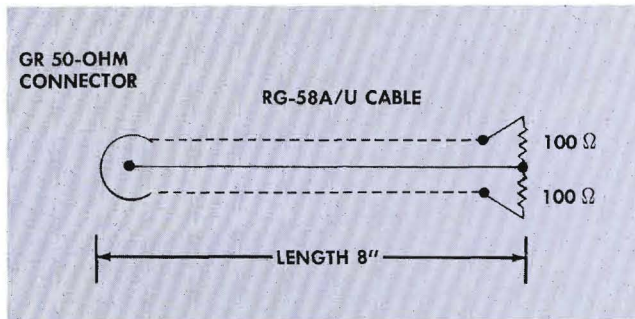
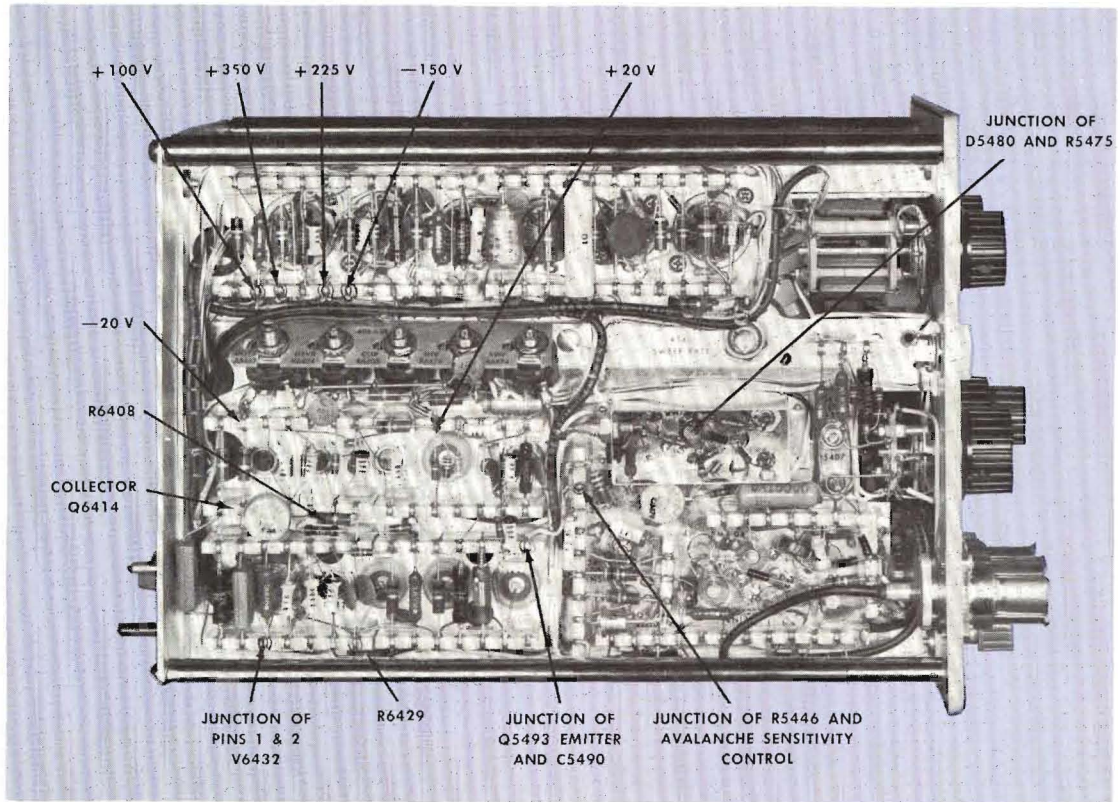
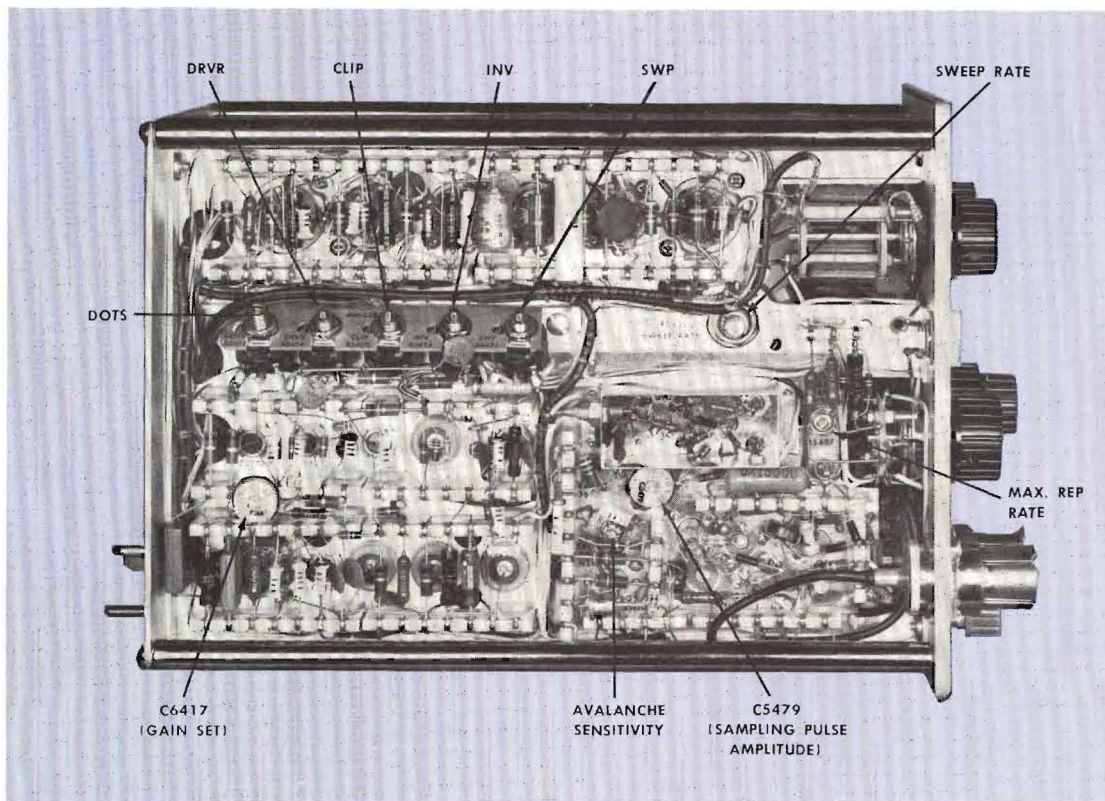

Fig. 6-2. 50 Ω terminated cable circuit.
Fig. 6-3. Location of the Type N Unit test points.
Fig. 6-4. Location of the Type N Unit internal adjustments.
Connect the 50-ohm termination cable shown in Fig. 6-2 to the SIGNAL INPUT connector on the Type N Unit. Set the TRIGGER SENSITIVITY control to the FREE RUN position. Turn the oscilloscope on and allow it to warm up for at least one minute before making any measurements.
The location of each test point and internal adjustment is shown in Figures 6-3 and 6-4.
- (8) The following 50 Ω attenuator pads are required:
- (9) One terminated pigtail (50 Ω impedance) made up of following parts; one 8-inch RG-58A/U cable; one GR (General-Radio) 50-ohm connector; two 100 Ω $\frac{1}{2}$ -w resistors. Assemble according to circuit shown in Fig. 6-2.
- (10) Two test leads, 18" long.
- (11) Capacitor, .001 μ f.
- (12) Insulated alignment tool, 1 $\frac{1}{2}$ -inch shank, Tektronix Part No. 003-000 or equivalent.
lead from the CAL. OUTPUT connector through the .001- μ f capacitor to the Type N TRIGGER INPUT connector. (Alternatively, you can connect a regenerated trigger from the Type 110 or a pretrigger from the Type 111, or equivalent, through a 10-nsec cable to the REGENERATED TRIGGER INPUT connector.) Connect the pigtail, shown in Fig. 6-2, to the SIGNAL INPUT connector on the Type N to provide a working load. Rotate the TRIGGER SENSITIVITY control fully clockwise. Connect the oscilloscope to a line source of 105 to 125 VAC if the oscilloscope is wired for 117-volt operation (210-250 VAC if wired for 234-volt operation). Turn on the oscilloscope power switch. After allowing time for the delay relay to energize, connect the dc voltmeter successively to the -150 -, $+100$ -, $+225$ -, and $+350$ -volt test points shown in Fig. 6-3. Be sure your voltmeter is accurate. The readings should be as follows: -146.2 volts ($\pm 2\%$), $+98.8$ volts ($\pm 3\%$), $+224$ volts ($\pm 3\%$), and $+349.6$ volts ($\pm 3\%$) respectively. Disconnect the voltmeter leads.
Rotate the TRIGGER SENSITIVITY control fully counterclockwise. Connect the dc voltmeter to the $+20$ - and -20 -volt test points shown in Fig. 6-3. The voltage reading should be $+20$ volts (± 2 volts) and -20 volts (± 2 volts), respectively. Disconnect the voltmeter.
Set the oscilloscope trigger controls so the internal sweep circuits are not running. Use the test oscilloscope and probe to measure the amount of ripple present at the 20-volt test points shown in Fig. 6-3. Typical ripple amplitude is less than 10 mv. Disconnect the probe.
Rotate the TRIGGER SENSITIVITY control fully clockwise. Check to see that the trace is displayed on the screen. Connect the probe of the test oscilloscope to the junction of pins 1 and 2, V6432 (Fig. 6-3). Adjust the test oscilloscope trigger controls for a stable display. Adjust the REP. RATE LIMIT adjustment R5407 (Fig. 6-4) for an output frequency of 120 kc (12 cycles displayed on the 10-centimeter graticule). Then turn the adjustment counterclockwise until the output frequency is 100 kc (one cycle per centimeter). Disconnect the probe.